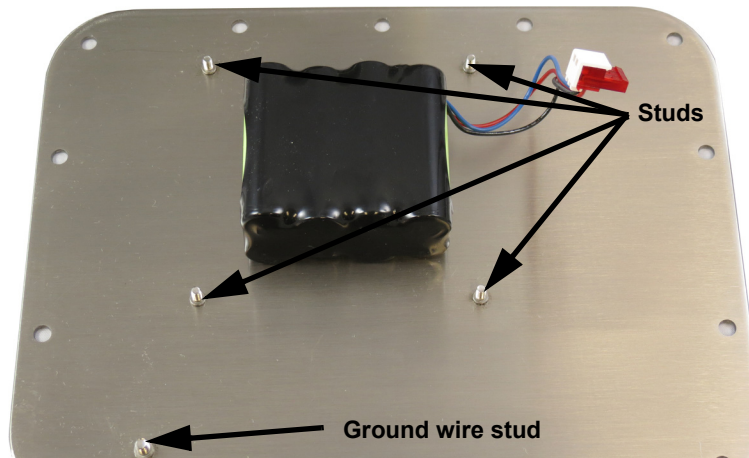

Figure 7 Battery pack in place on inside of the back cover plate
2. Remove the ground wire from the stud on the inside of the back cover and lay the back cover on a flat work area with the inside of the cover up. Place the battery pack between the four studs, as shown in Figure 7.